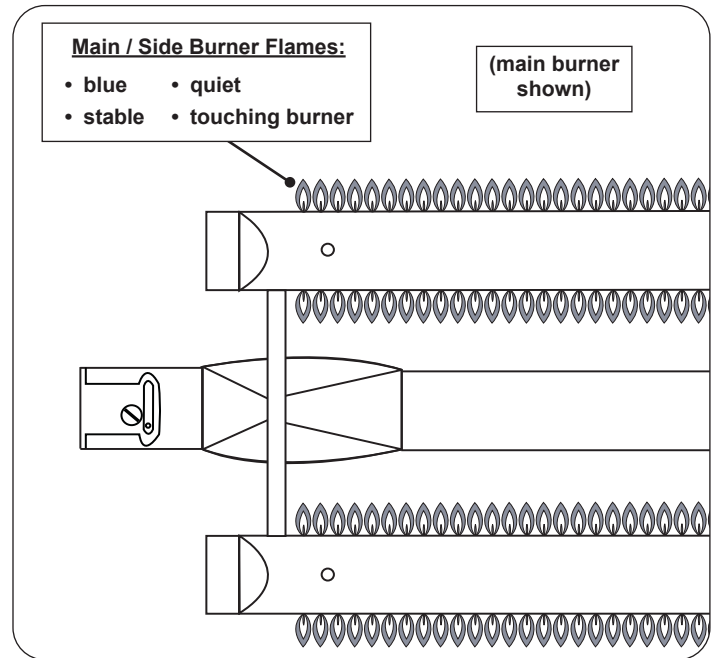

Fig. 36-1 Proper flame appearance
**Note:** To verify proper settings, the flames of the burners should be visually checked for proper flame appearance and behavior. Light the grill with the burner(s) on HI setting. Allow at least 2 minutes to burn. See below and Fig. 36-1. The flames should: